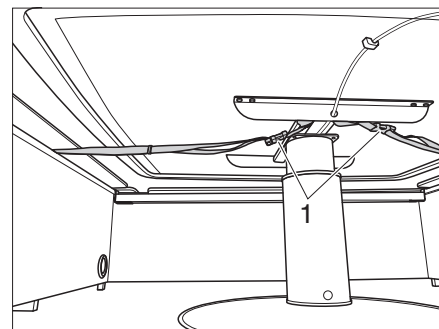

Fig. 57 Securing the lift-off table with belts
- ▷ The lift-off table is not secured to the floor. Before starting the journey, lower the lift-off table to the lower stop and fasten with the belts (Fig. 57,1) under the benches.